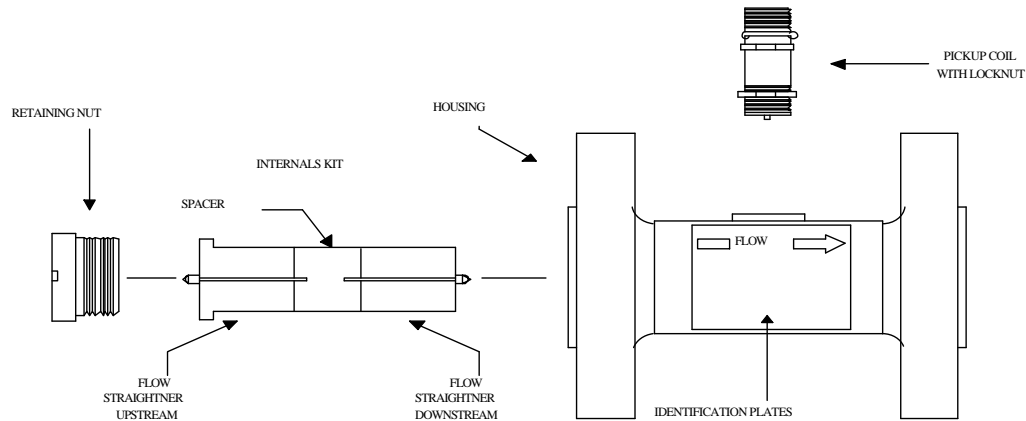

Figure 6 Flow Sensor Disassembly
1. Study Figure 6 prior to disassembling the flow sensor. Use the spanner wrench to remove the retaining nut on the flowmeter inlet. The internals kit may now be removed from the flowmeter housing.